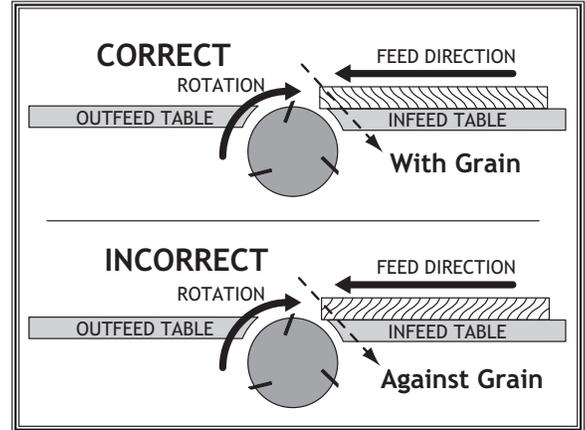

Figure 21. Correct setting for grain alignment.
- **Jointing and surface planing with the grain produces a better finish and is safer for the operator.** Cutting with the grain is described as feeding the stock on the jointer so the grain points down and toward you as viewed on the edge of the stock (see Figure 21).